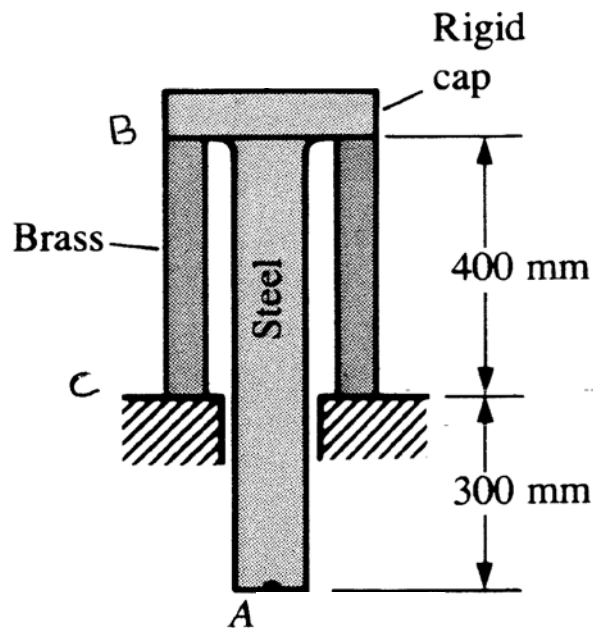

Fig. P3
- 3) A 12-mm-diameter steel rod, shown in Fig. P3, is welded to a rigid plate that is supported by a brass pipe whose outside diameter is 30 mm and whose inside diameter is 20 mm. The temperature is increased by  $50^\circ \text{ C}$  in the steel and decreased by  $40^\circ \text{ C}$  in the brass. If  $E_{ST} = 210 \text{ GPa}$ ,  $\alpha_{ST} = 12 (10)^{-6} / ^\circ \text{ C}$ , and  $E_{BR} = 105 \text{ GPa}$ ,  $\alpha_{BR} = 18 (10)^{-6} / ^\circ \text{ C}$ , determine